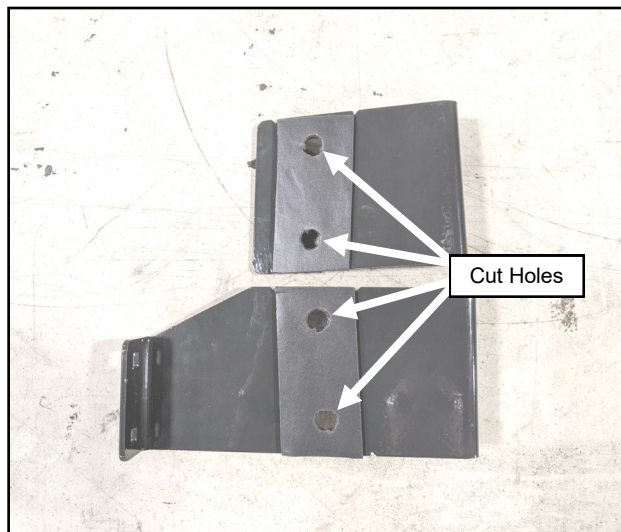

Fig. 2.1 (Cut Out Foam From ROPS Mounting Holes)
- 2.1** If required, use a knife or scissors to cut the foam from the ROPS bracket mounting holes. See Figure 2.1.